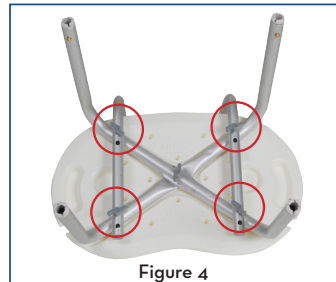

Figure 4
5. Attach backrest frame (E) to the seat by aligning holes on backrest frame supports with the holes on the leg receivers (C). Secure in place using the large thumb screws (B), making sure to pay attention to the “rear” of the seat (Figure 4).